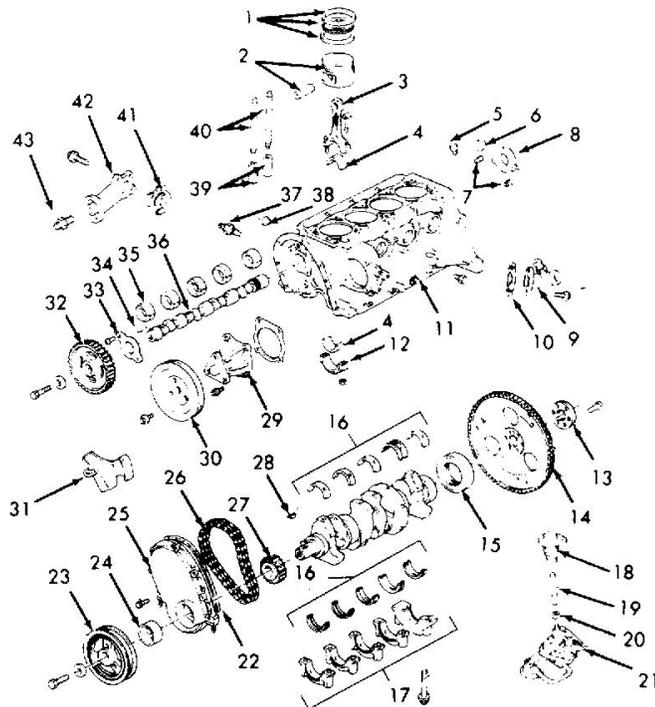
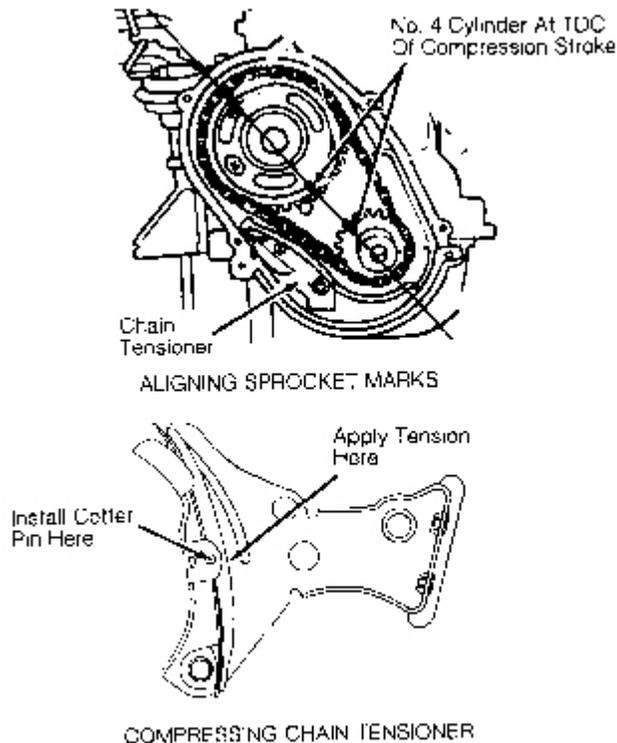

Fig. 4: Exploded View of Cylinder Block & Components
Fig. 6: Timing Chain Sprocket Alignment & Tensioner
1. Remove the front timing case cover. Refer to **FRONT TIMING CASE COVER** under REMOVAL & INSTALLATION in this article. Align the camshaft and crankshaft sprocket marks with the tabs on the chain tensioner. See **Fig. 6** . Remove upper bolt from timing chain tensioner. See **Fig. 4** . Loosen timing chain tensioner torx bolt as far as possible. **DO NOT** remove bolt.
1. If chain tensioner was removed, install chain tensioner and torx bolt. Compress tensioner spring and install small cotter pin in hole of chain tensioner. See **Fig. 6**.
3. Install timing chain and camshaft sprocket so sprocket marks are aligned with tabs on chain tensioner. See **Fig. 6** .